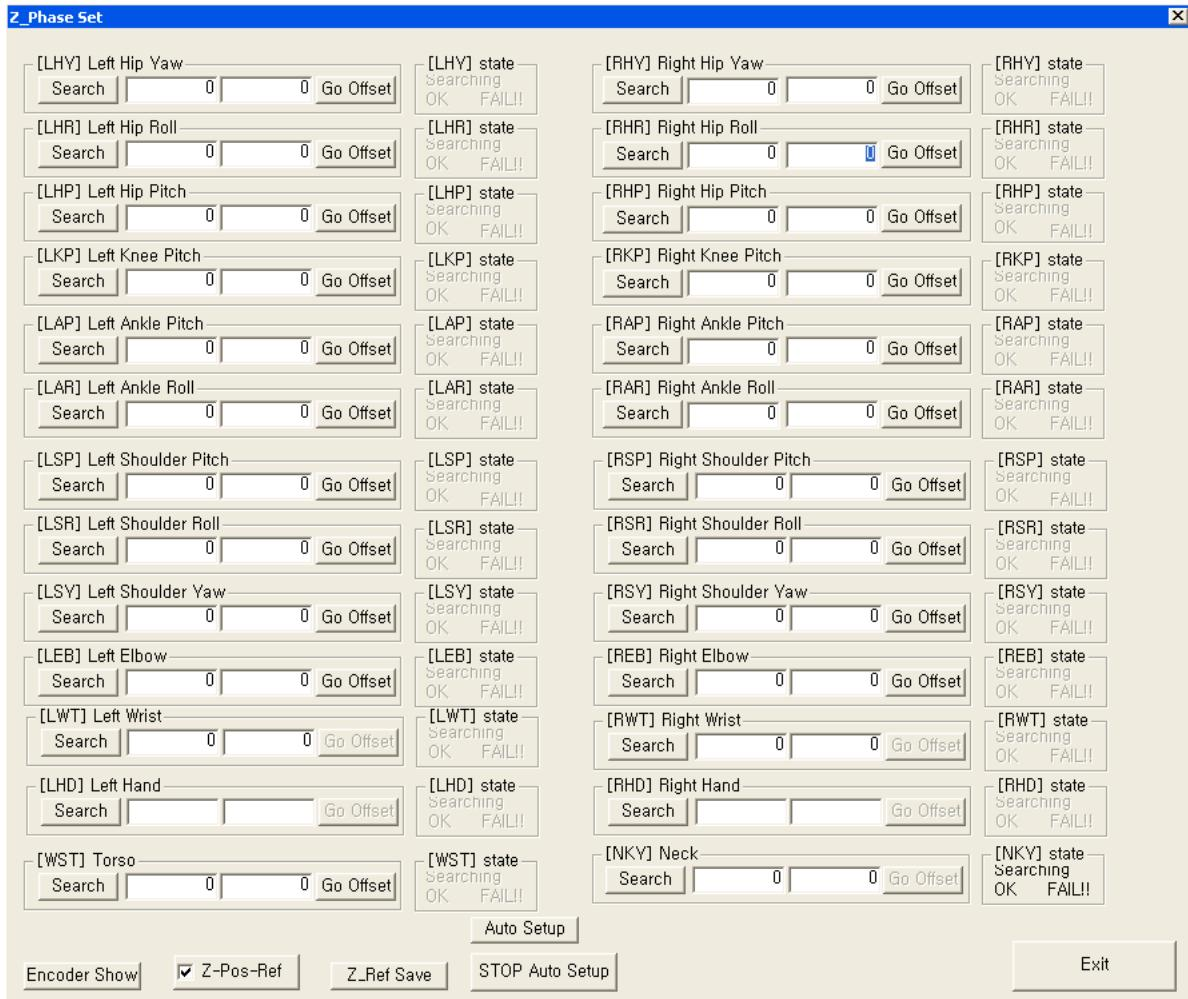

Figure 17: Zero Phase (ZPhase) Dialog Box: Allows user to zero and activate each of Hubo's joints
5.21.4 Click *Exit* in the ZPhase dialog box, Figure 17